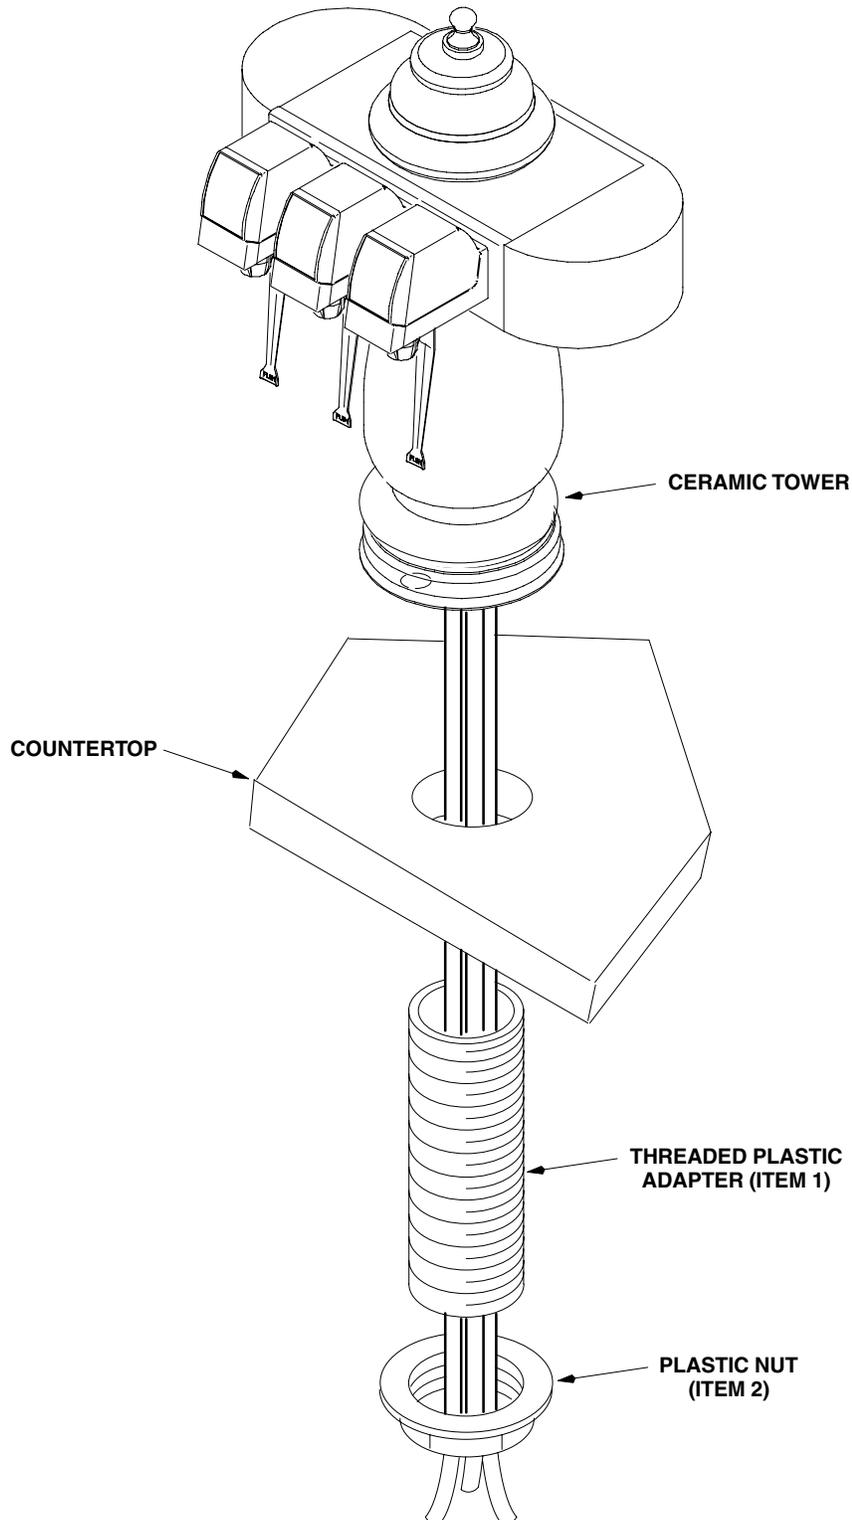

FIGURE 4. CERAMIC TOWER INSTALLATION
(see Figure 4)
11. Very carefully pick up the Unit and lower it into position on the countertop. Secure Unit to the countertop with PLASTIC NUT (item 2) as shown in Figure 4.
14. If applicable, mount TRANSFORMER (item 4) on underside of the countertop close to the Unit.